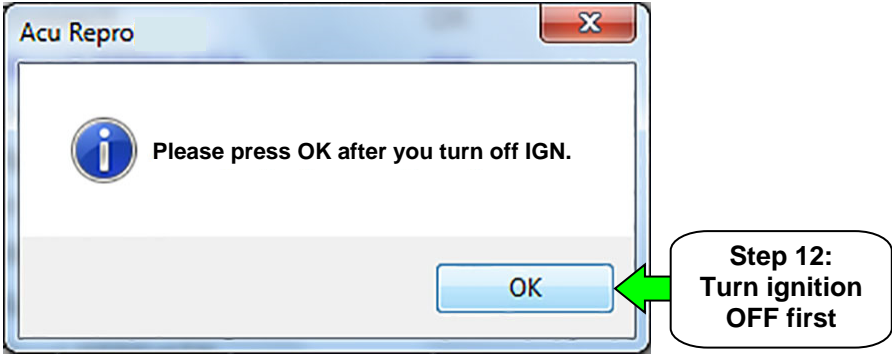

Figure 8
- 11. When reprogramming completes, the screen in Figure 8 appears.